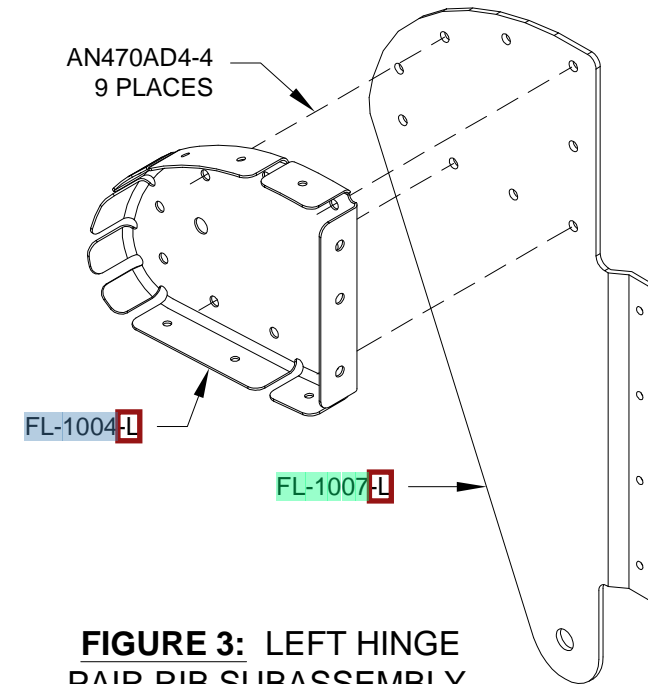

FIGURE 3: LEFT HINGE PAIR RIB SUBASSEMBLY
Step 3: Rivet together the two left hinge pair rib subassemblies using the rivets called out in Figure 3.